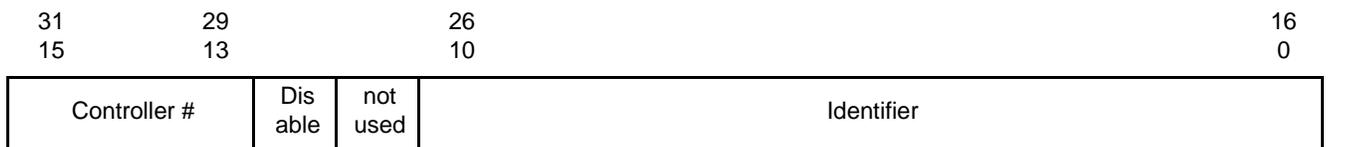

Figure 35: Entry in fullCAN and Individual Standard Identifier Tables
- The area between the start of Acceptance Filter RAM and the SFF_sa address, is used for a table of individual Standard IDs and CAN Controller/bus identification, sorted in ascending order and in the same format as in the Individual Standard ID table (see Figure 35 on page 205). Entries can be marked as “disabled” as in the other Standard tables. If there are an odd number of “FullCAN” ID’s, at least one entry in this table must be so marked.